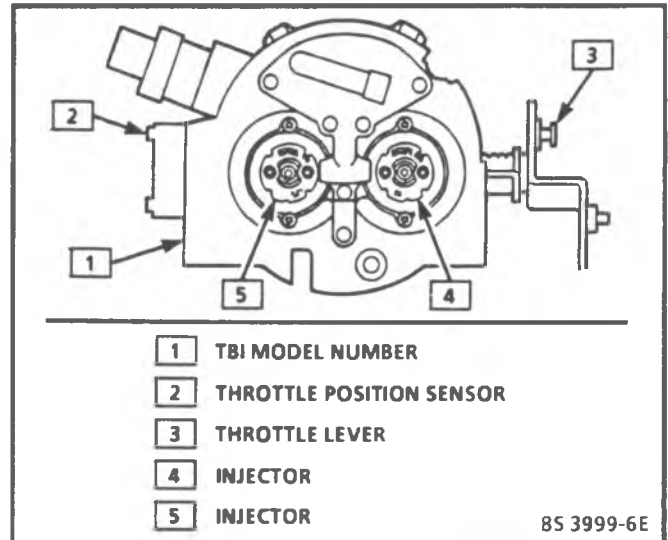

Figure 4-26 - Fuel Injector TBI 220
- Be sure to replace the injector with one having an identical part number. Injectors from other models can also fit in TBI model 220, but are calibrated for different flow rates. (See Figure 4-26 for part number location).